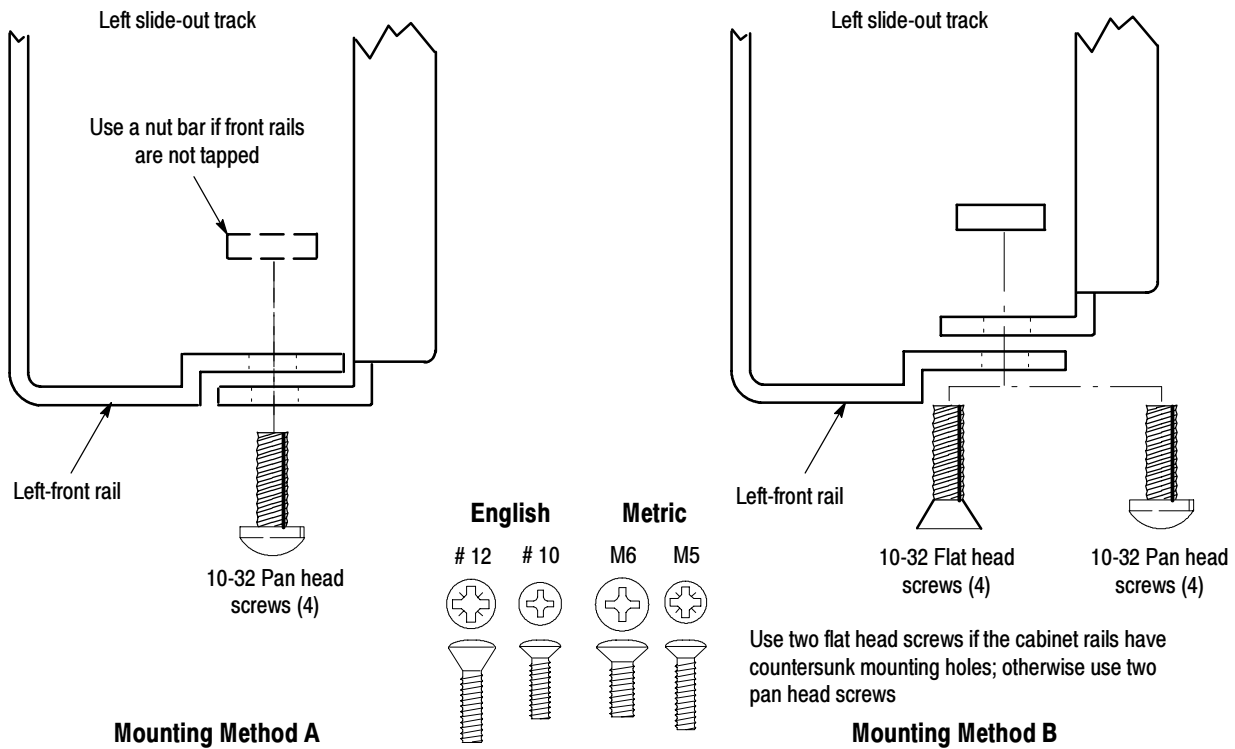

Figure 11: Installation of slide-out track assemblies in rack (top view)
See Figure 11 on page 21, for illustration of slide-out track mounting options.
- To mount the slide-out tracks with their front and rear flanges outside of the front and rear rails use Mounting Method A shown in Figure 11 when doing substep c. Add a nut bar to the installation only if the rails have untapped holes.
- To mount with front and rear flanges inside of rails use mounting Mounting Method B outlined in Figure 11. This mounting method assumes untapped holes.